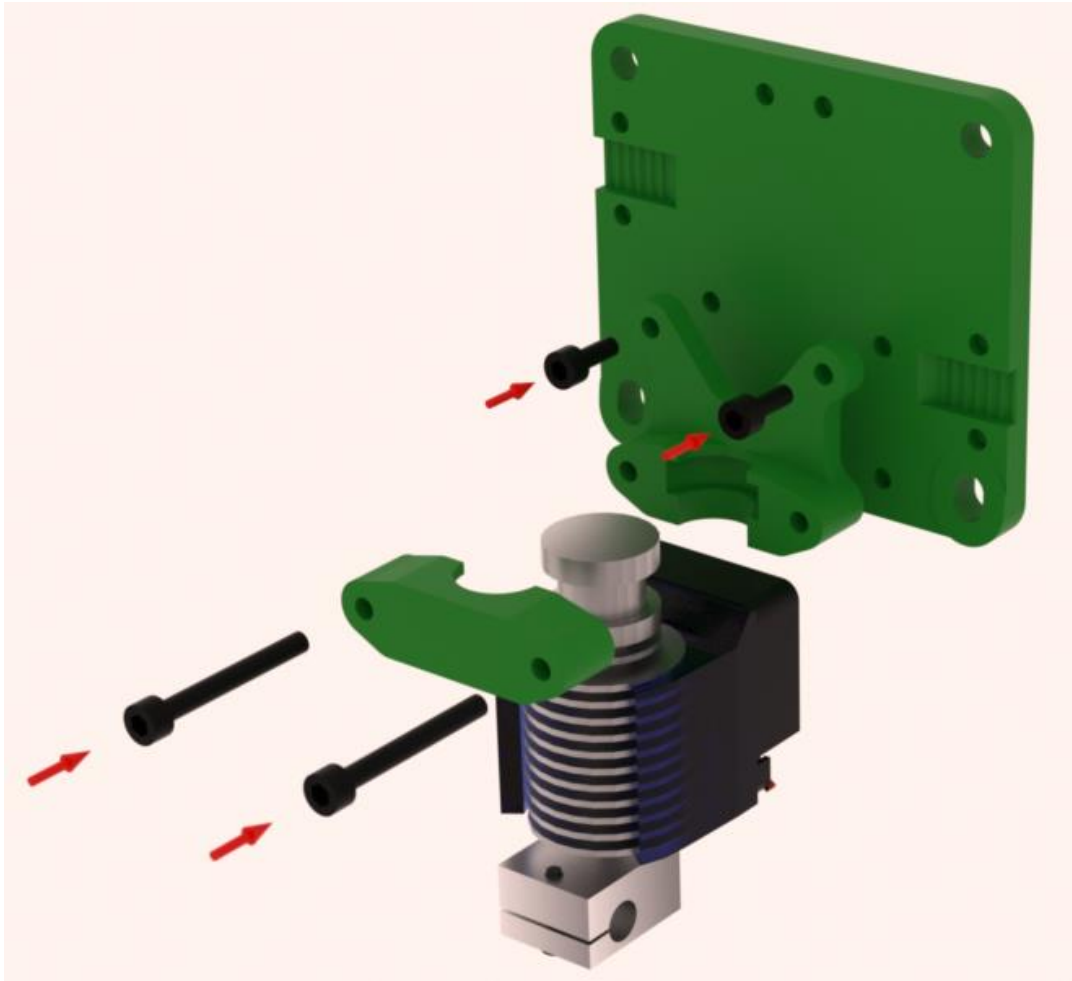

Figure 33: Hot end installation
- Attach the hot end to the front carriage plate as shown in Figure 33.